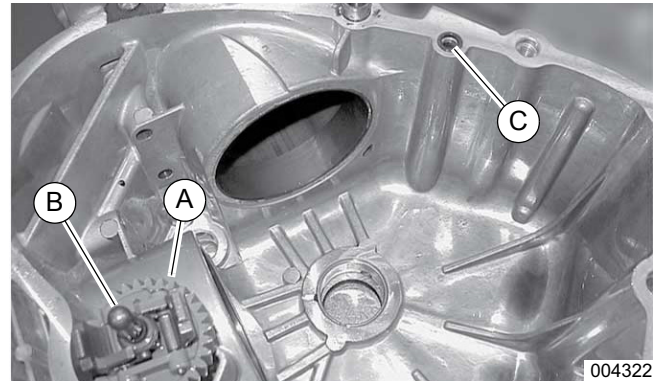

Figure 6-1. Governor Gear Assembly and Spool
1. See Figure 6-1. Leverage gear assembly (A) and governor spool (B) off of governor shaft. Note the location of the oil passage O-ring (C).
2. See Figure 6-1. Verify new oil passage o-ring (C) is in place.